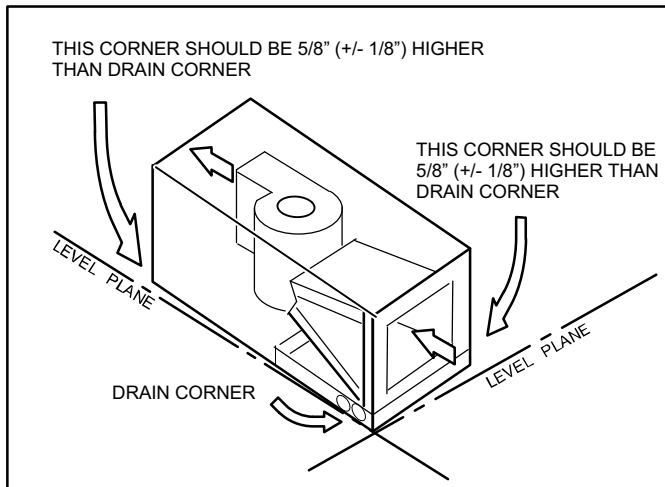

Figure 10. Sloping the Drain
3. Set unit so that it is sloped toward the drain pan end of the unit (see figure 10).
Make sure the unit is sloped (similar to the slope shown in figure 10) (horizontal or upflow) so that the drain pan will empty completely without water standing in the pan.